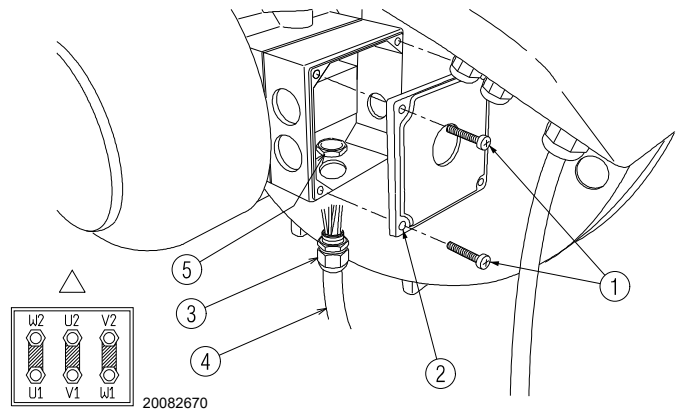

Fig. 24
- to access the motor casing, loosen the four screws 1)(Fig. 24) and remove the cover 2);
- install the cable 4) with its relative coupling on the motor casing, fixing it carefully in place with the ring nut 5)(Fig. 24).
- Make a final visual check, then close the motor casing by tightening the 4 screws 1)(Fig. 24).